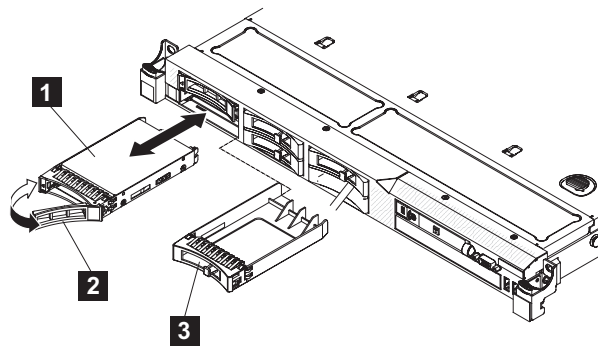

Figure 112. SAN Volume Controller 2145-CG8 or 2145-CF8 drive and drive-bay filler
- b. Align the drive assembly with the guide rails in the bay, as shown in Figure 112.